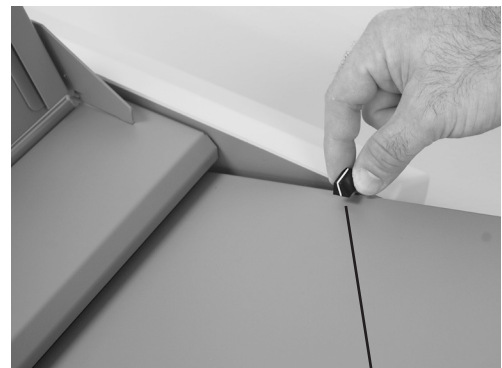

Fig. 2
2. Lock the fold table into position (FD 38Xi Only) (Fig. 2)